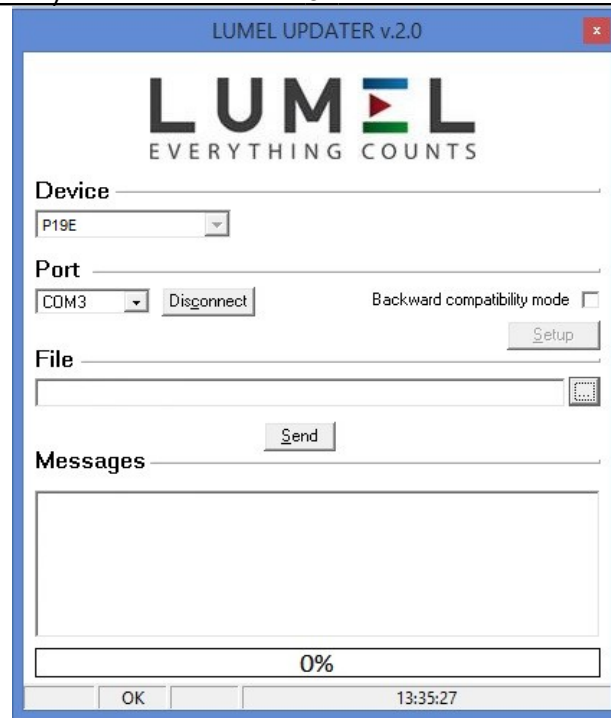

Fig. 22 View of the program to upgrade the firmware.
Then click the **Connect** icon. Then click the link **Upgrade firmware** which will display the window of LUMEL UPDATER (LU) – **Fig. 22**.